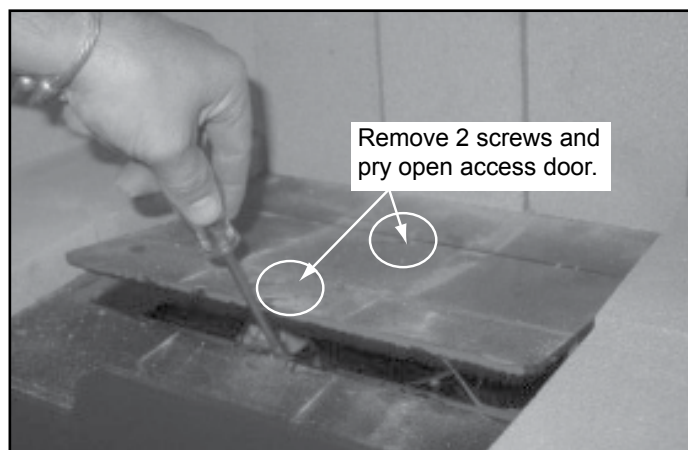

Figure 4.11 Open Access Door
- Remove two Phillips head screws and pry open access door in the bottom of the fireplace with a flat head screwdriver. See Figure 4.11.